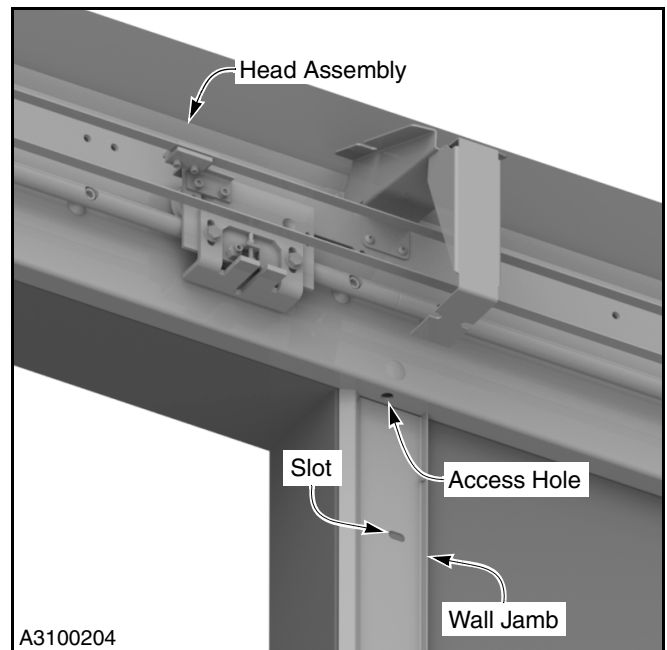

Figure 14
4. Loosen the hardware and adjust the wall jamb as required. (See Figure 14.)